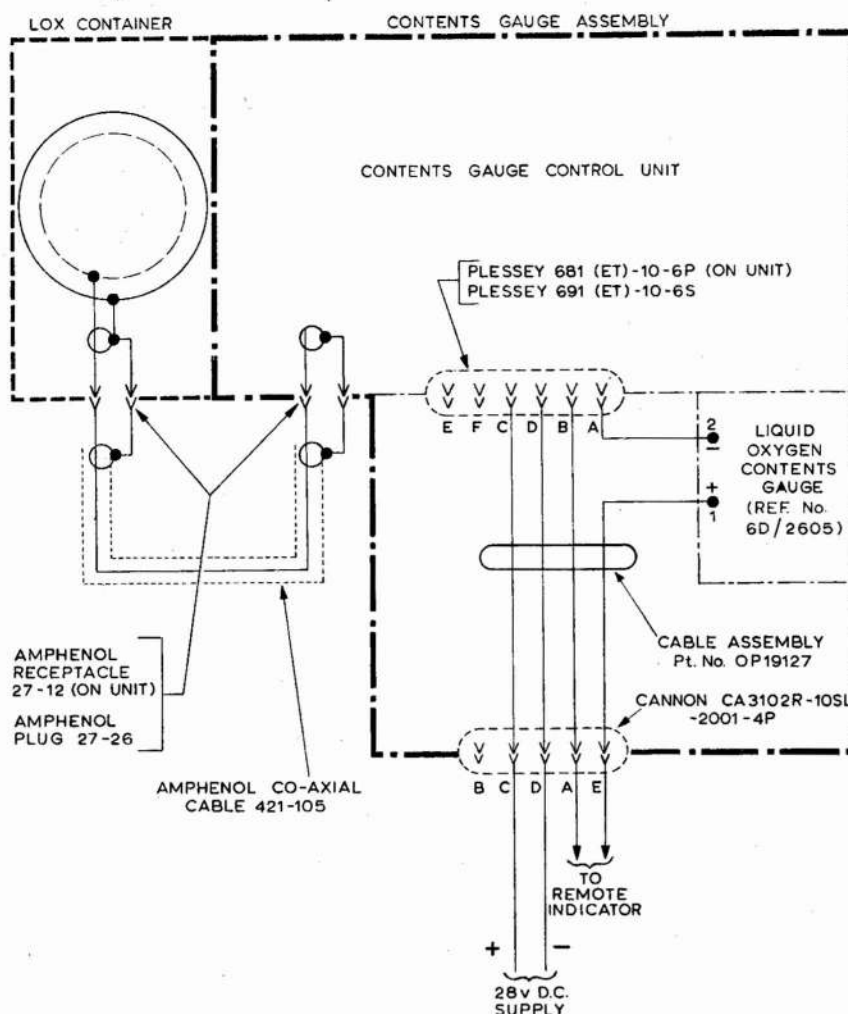

Fig. 3. Wiring diagram
9. Electrical connection is made through a Cannon receptacle which is mounted on a bracket below the contents gauge. Electrical inter-connection (fig. 3) between the Canon re-